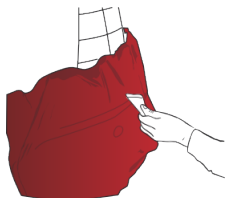

Fig. 14
- › Apply the vinyl over the entire surface with the help of a plastic squeegee covered with a felt sheet and carefully wipe over the convex area (FIG. 14) to eliminate any tensions.